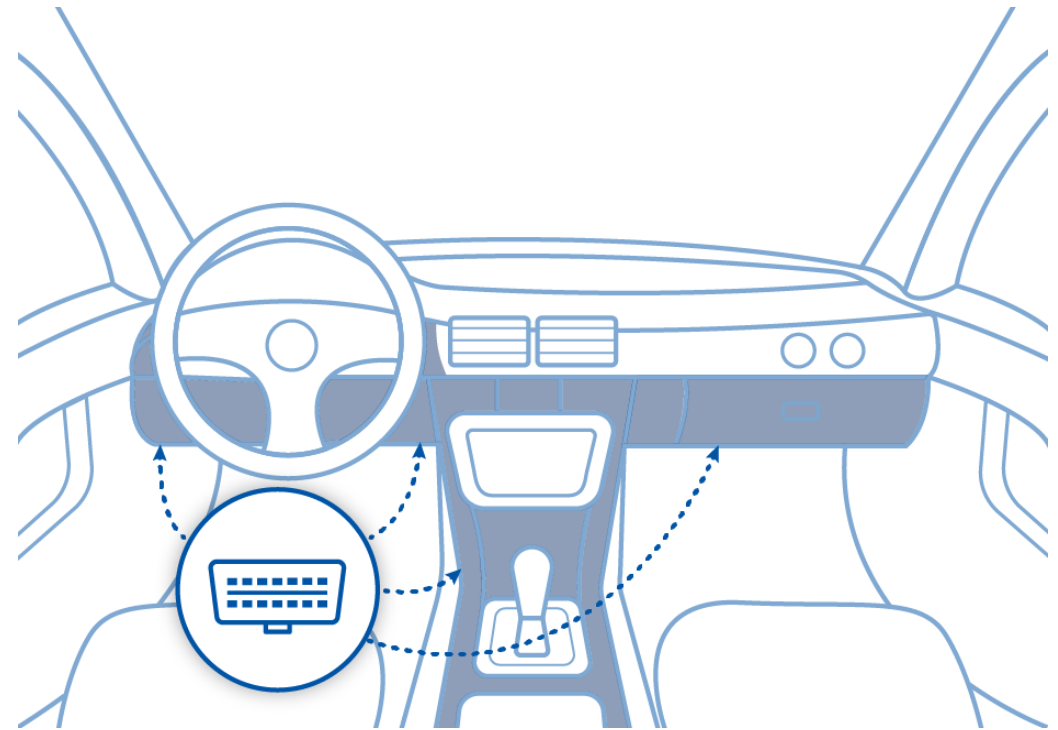

Figure 10. Most common OBDII connector locations
- Find OBDII connector in your vehicle (**Figure 10. Most common OBDII connector locations**).